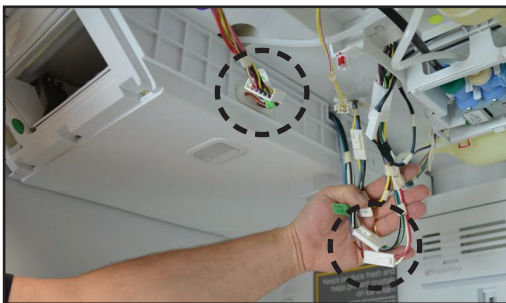

FIGURE 29
2. Disconnect electrical connections to ice box assembly. See *Figure 29*.